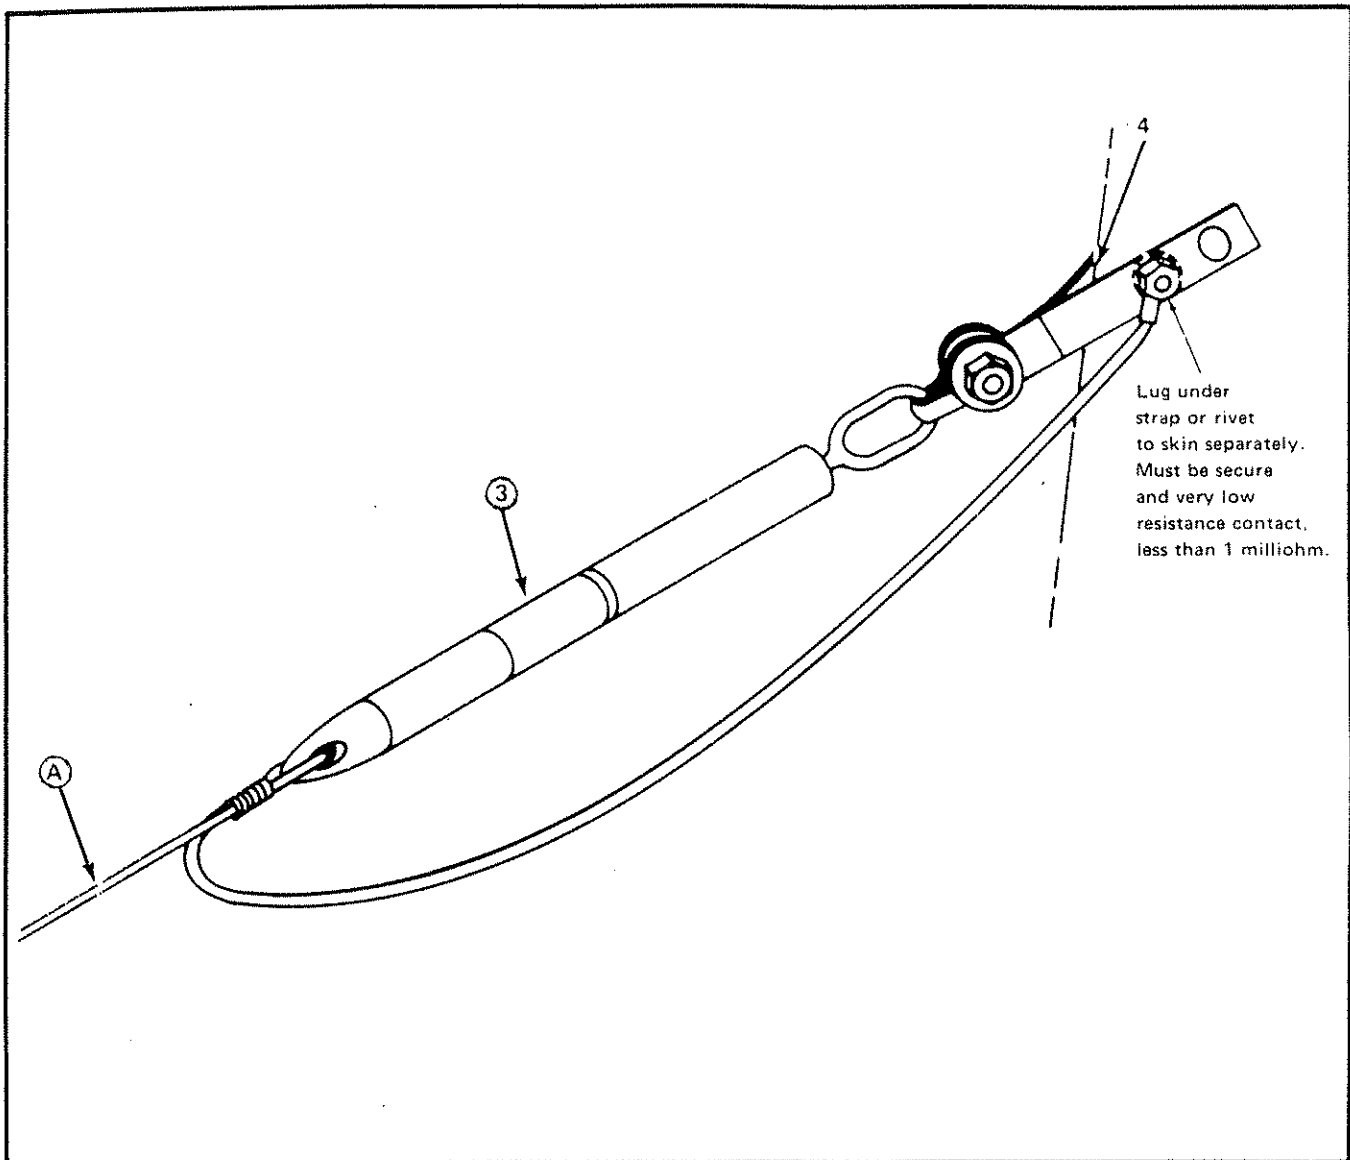

Figure 2.5 Antenna Grounding
For straight grounded antennas (see Figure 2.5), the antenna (A) from feed through insulator (Item 1, Table 2.1) is fed through the insulated tension unit (Item 3) and clamped or tied with nylon cord (as shown) to proper length. Ground antenna with ground lug to Item 4 of Table 2.1 or aircraft skin. Ground connection **MUST** be secure, low resistance and capable of high current.